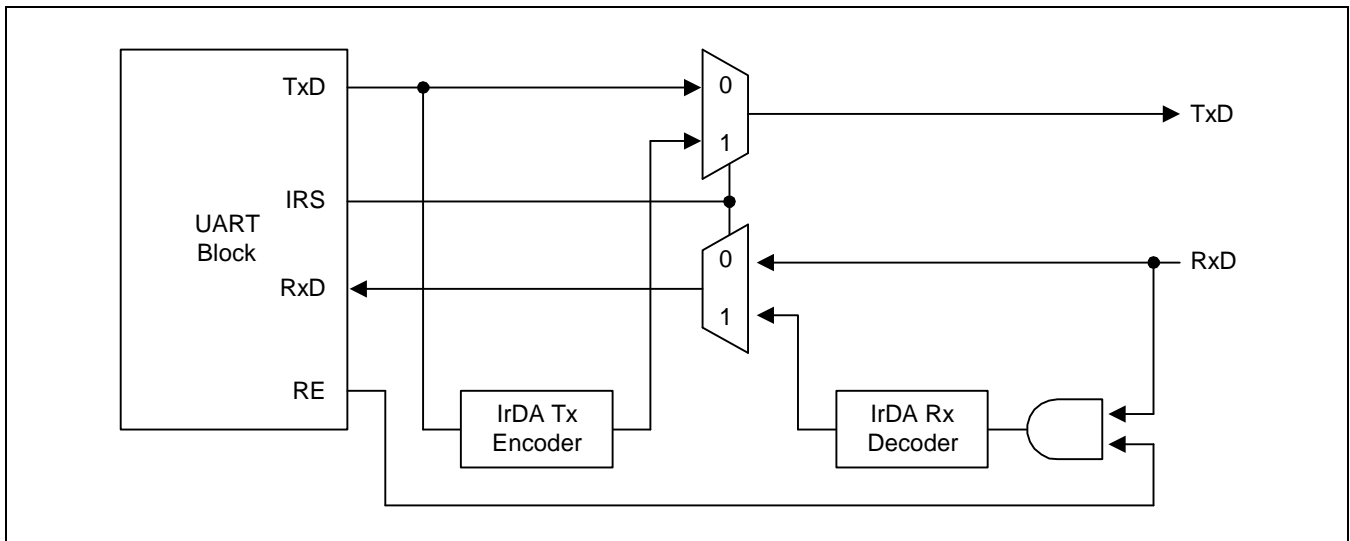

Figure 15-4. IrDA Function Block Diagram
2.1.9 Infrared (IR) Mode
The S3C2450 UART block supports infrared (IR) transmission and reception, which can be selected by setting the Infrared-mode bit in the UART line control register (ULCONn). Figure 15-4 illustrates how to implement the IR mode.